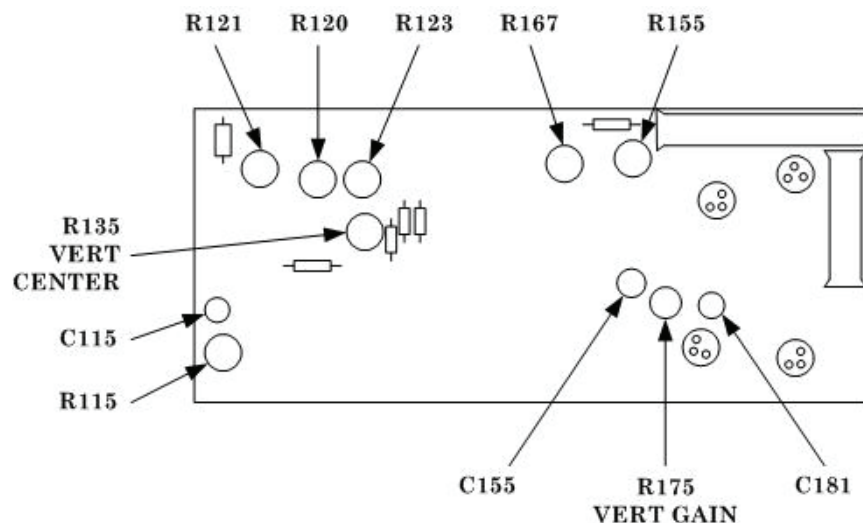
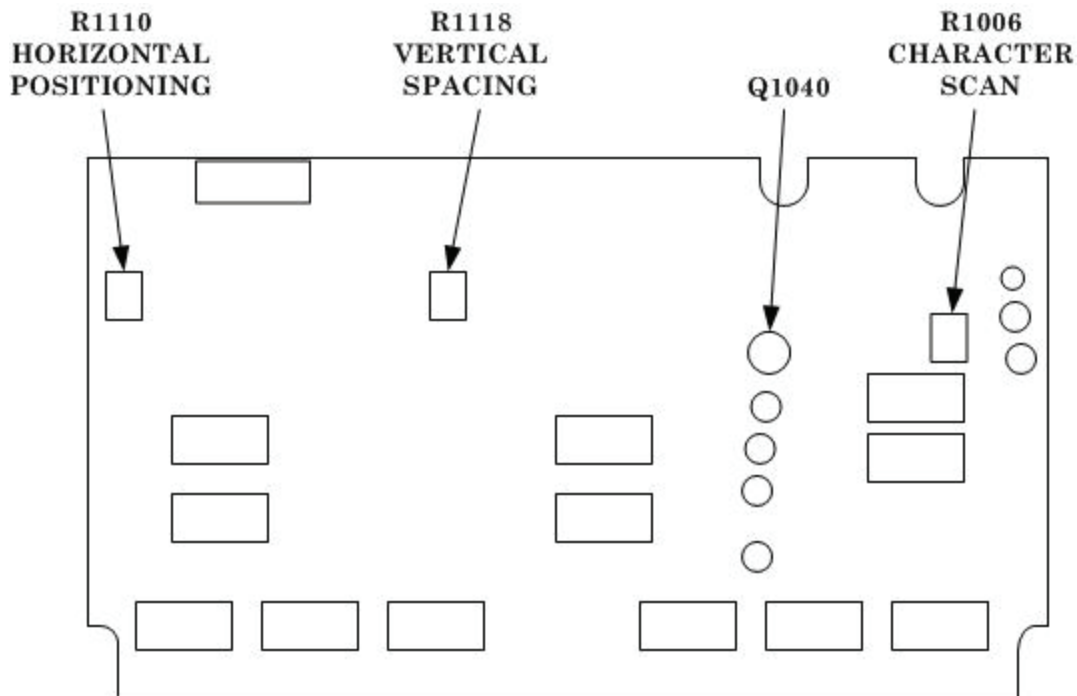

Figure 4. Vertical amplifier circuit board (left side).
Figure 5. Readout circuit board (top).
- (3) Remove vertical amplifier from TI right compartment and remove time base from center compartment.
- (4) Install time base in TI right compartment and pull TI **POWER** switch to on.
- (5) Position calibration fixture controls as listed in (a) through (d) below:
- (6) If trace is not within 0.5 division of the center horizontal graticule line, perform **b** below.
- (7) Press TI **POWER** switch to off and move calibration fixture from left to center vertical compartment.
- (8) Pull TI **POWER** switch to on. If trace is not within ± 0.5 division of center horizontal graticule line, repeat (b) below for a compromise between left and center vertical compartments.
b. Adjustments. Adjust R135 VERT CENTER (fig. 4) to position trace to horizontal graticule line.
(4) Adjust calibration fixture **POSITION** control to align bright center trace of display with TI center horizontal graticule line.
(5) If center seven traces do not coincide within ± 0.1 division of respective horizontal graticule lines, perform **b** below.
(6) Press TI **POWER** switch to off and remove calibration fixture from left and install in TI center compartment.
(7) Pull TI **POWER** switch to on and repeat (4) and (5) above and if necessary, repeat **b** below for optimum gain setting compromise for both vertical compartments.
b. Adjustments. Adjust R175 VERT GAIN (fig. 4) for a 6 division deflection over center seven horizontal graticule lines (R).
(1) Adjust R121 (fig. 4) for optimum flat top on pulse displayed on TI screen.
(2) Set time base **MAIN SEC/DIV** switch to **1 μ s** and adjust R120 (fig. 4) for optimum flat top on displayed pulse.
(3) Set time base **MAIN SEC/DIV** switch to **0.5 μ s** and adjust R123 (fig. 4) for optimum flat top on displayed pulse.
(4) Repeat (1) through (3) above as necessary to obtain optimum flat top on displayed pulse.
(5) Adjust C637 (fig. 1) (main interface board between vertical compartments, serial number B063251 and up), C115 (fig. 4), R115 (fig. 4), C155 (fig. 4), R155 (fig. 4), R167 (fig. 4), and C181 (fig. 4) for optimum pulse display on TI screen.
There is interaction between C115 (fig. 4) and R115 (fig. 4), and between C155 (fig. 4) and R155 (fig. 4). Readjust if required.
(1) Press TI **POWER** switch to off. Remove calibration fixture and time base from TI compartments.
(2) Remove Q1040 (fig. 5).
(3) Pull TI **POWER** switch to on and adjust **READOUT** control for visible characters.
(4) If TI does not display two rows of zeros located in middle of top and bottom graticule divisions, with 4 zeros in each row with no overlap, perform **b** (1) below.
(5) If the first and last zero of both rows are not within the TI graticule area, perform **b** (2) below.
(6) If zeros are not complete or have over scanning, (over scanning causes a bright dot where traces overlap) perform **b** (3) below.
(7) Set TI **POWER** switch to off and install Q1040 (fig. 5).
(1) Adjust R135 VERT CENTER (fig. 4) to position the bottom row of zeros to the middle of the TI screen bottom graticule division. Adjust R1118 VERTICAL SPACING (fig. 5) to position the top row of zeros to the middle of the TI screen top graticule division. Due to interaction, it may be necessary to readjust R135 (fig. 4) and R1118 (fig. 5) until correct zero location is obtained.
(2) Adjust R1110 HORIZONTAL POSITIONING (fig. 5) until first and last zero of both rows are within TI graticule.
(3) Adjust R1006 CHARACTER SCAN (fig. 5) for fully scanned zeros without over scanning. Turn TI **POWER** switch to off, and install transistor Q1040.